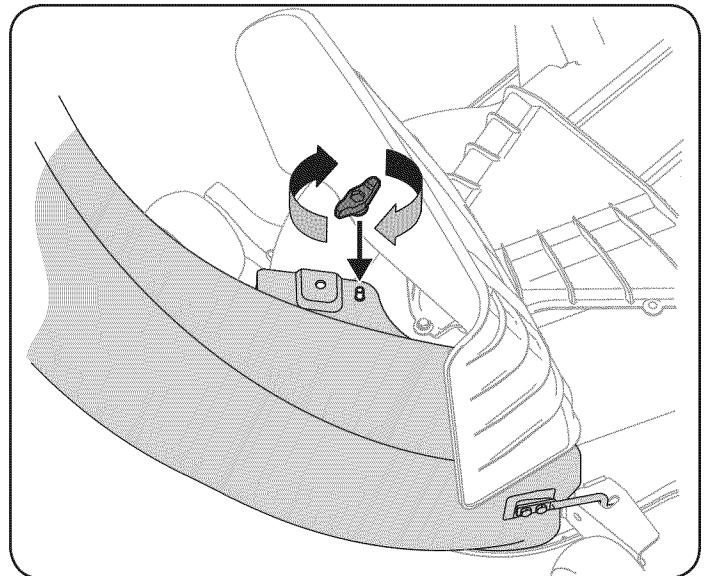

Figure 23
6. Secure the discharge chute elbow to the cutting deck using a (720-04122) wing knob included in hardware pack 689-00341. Refer to Figure 23.